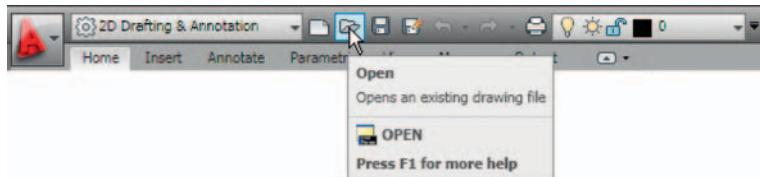
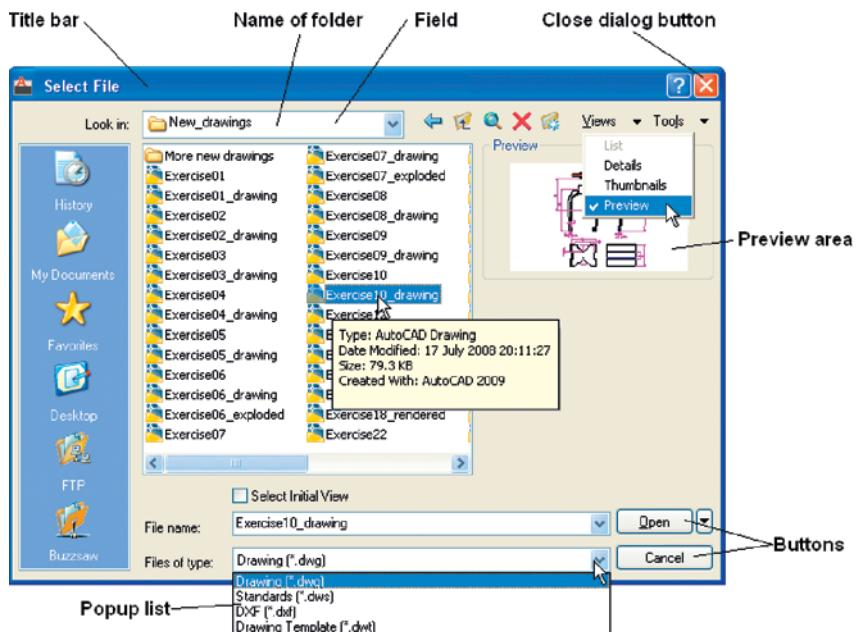

Fig. 1.14 Opening the **Select File** dialog from the **Open** icon in the **Quick Access** toolbar
Fig. 1.15 The **Select File** dialog
Examples of dialogs are shown in Figs 1.15 and 1.16. The first example is taken from the **Select File** dialog (Fig. 1.15), opened with a *click* on **Open...** in the **Quick Access** toolbar (Fig. 1.14). The second example
**Preview area:** Available in some dialogs – shows a miniature of the selected drawing or other feature, partly shown in Fig. 1.15.